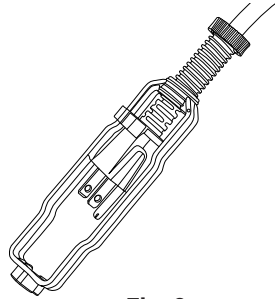

Fig. 2
Attach up to (2) 30', 16/3 SJT extension cords (provided) to the pigtail on the vacuum. Ensure all cord connections are made using the cord lock system(s) (Fig. 2) that come with the vacuum.